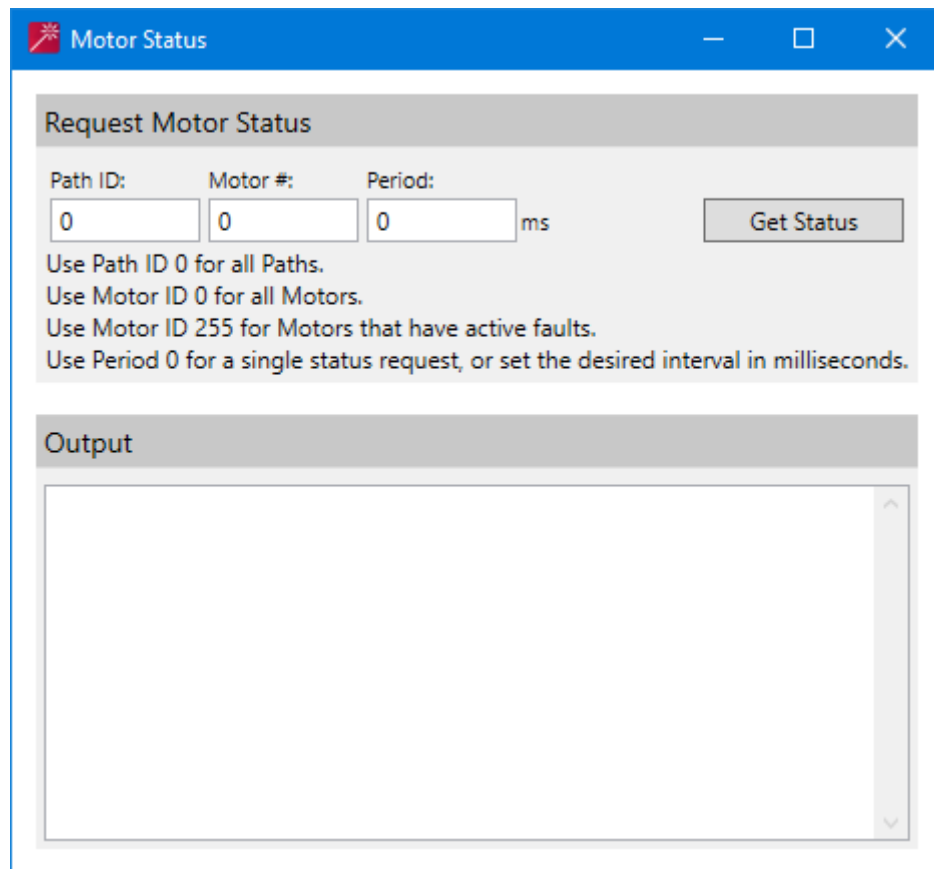

Figure 2-22: Motor Status Window
*The **Motor Status** window is displayed as shown in Figure 2-22 (see Motor Status Window on page 160 for detailed descriptions of all fields).*